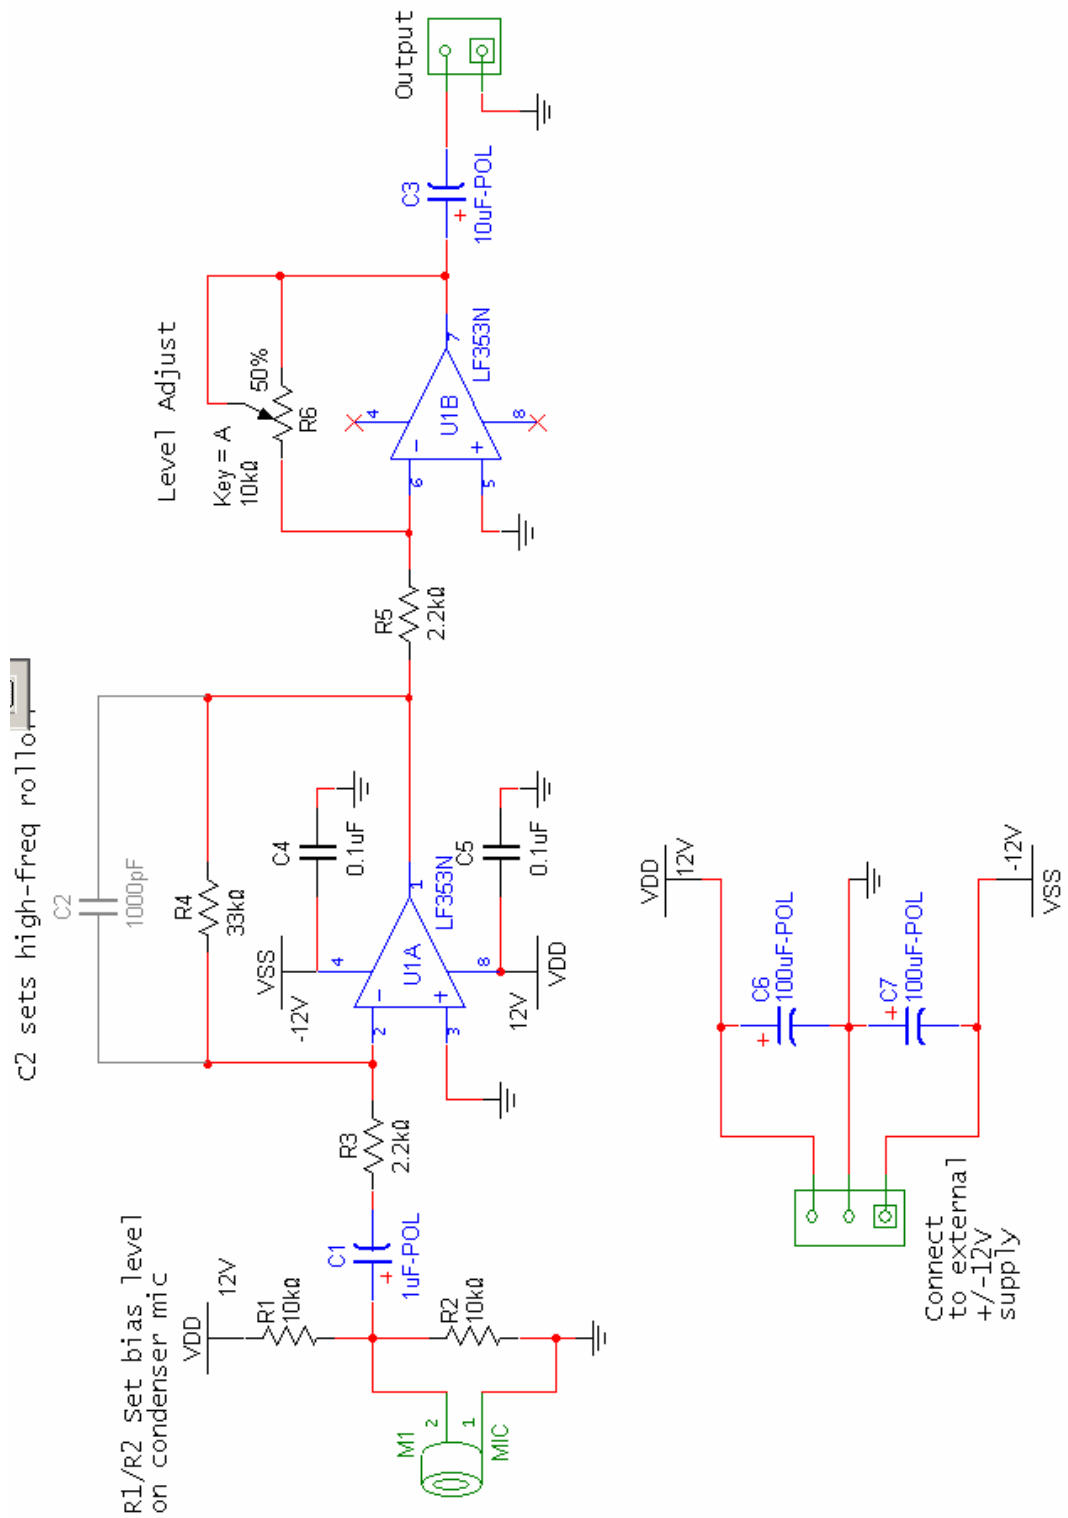

Figure 1-1 – Schematic for the microphone preamplifier.
- Configure your solderless breadboard with +/- 12 Volt and ground connections using the bench power supply. Add the large 100 μ F supply capacitors (C6 and C7) onto your breadboard as shown in the schematic in Figure 1-1.
- Now temporarily add in capacitor C2 (refer to the full schematic in Figure 1-1). This introduces another pole in the system to reduce the high-frequency gain (calculate it!). Sweep the frequency to determine the resulting upper cutoff frequency, and record this in the lab record along with the voltage gain in the passband (around 1 kHz). Remove C2 when you are finished.
- Add in the remaining circuit elements according to the schematic in Figure 1-1. This last step just adds a simple inverting stage that can amplify or attenuate the signal. This will be helpful later to adjust the microphone signal level for a desired amplitude to drive the AM modulator.